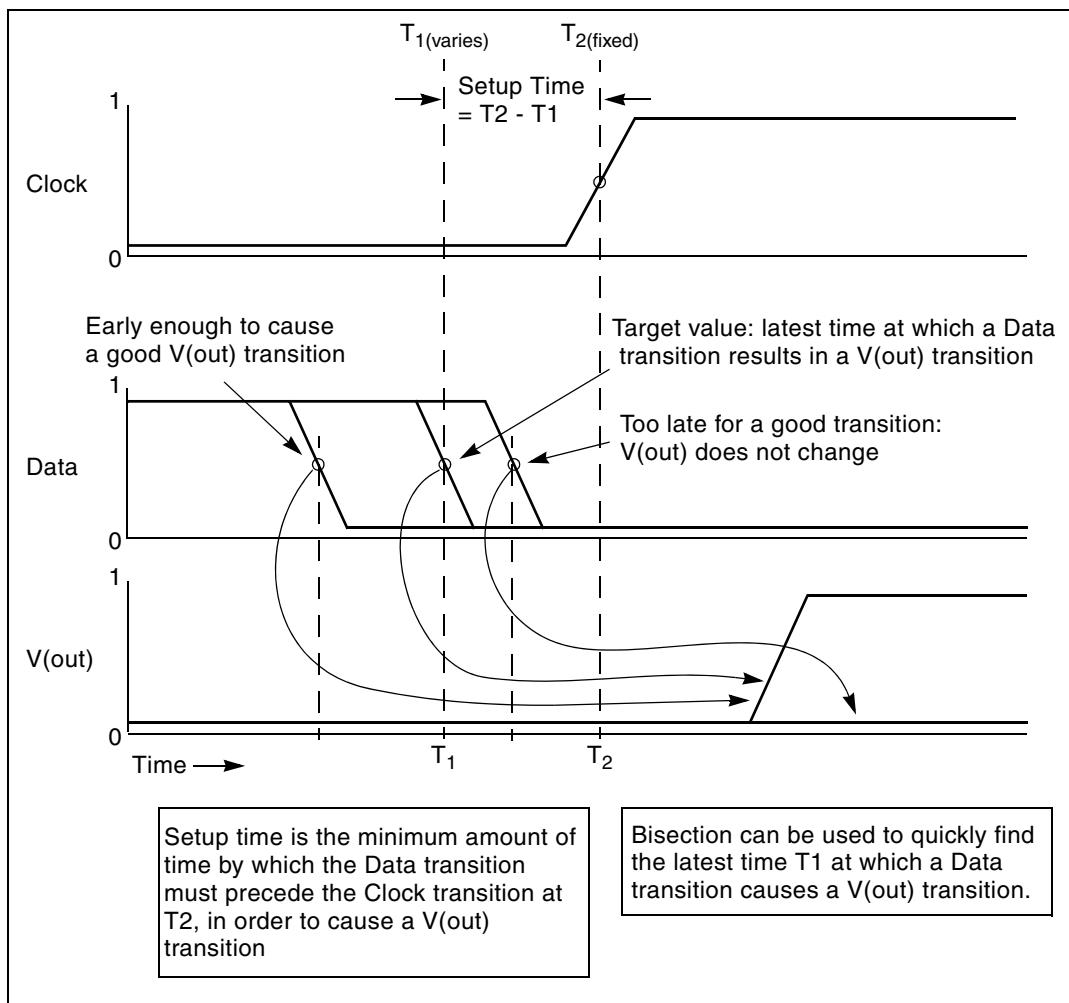
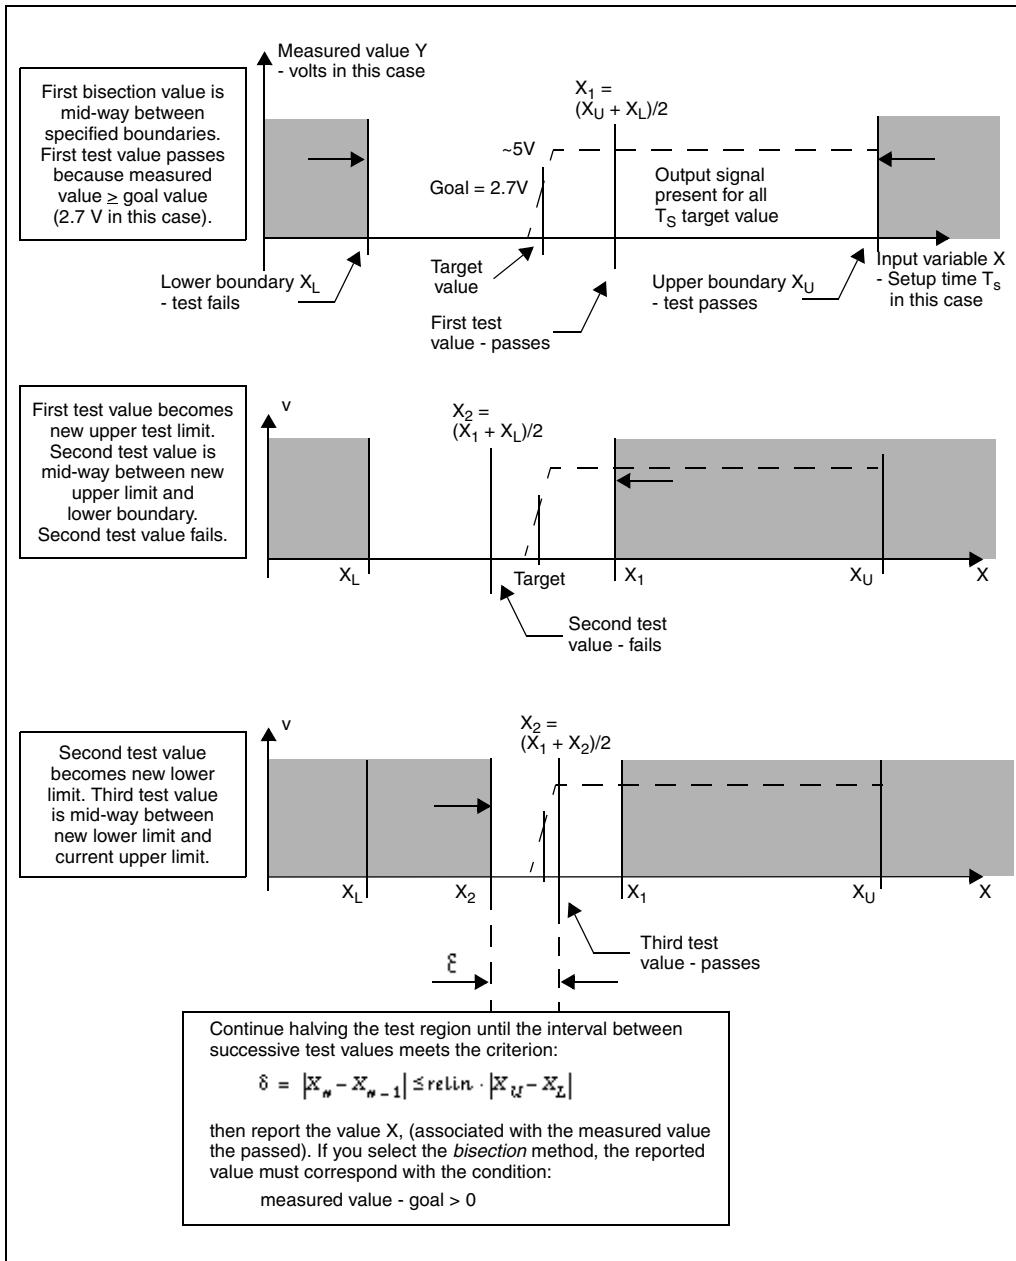
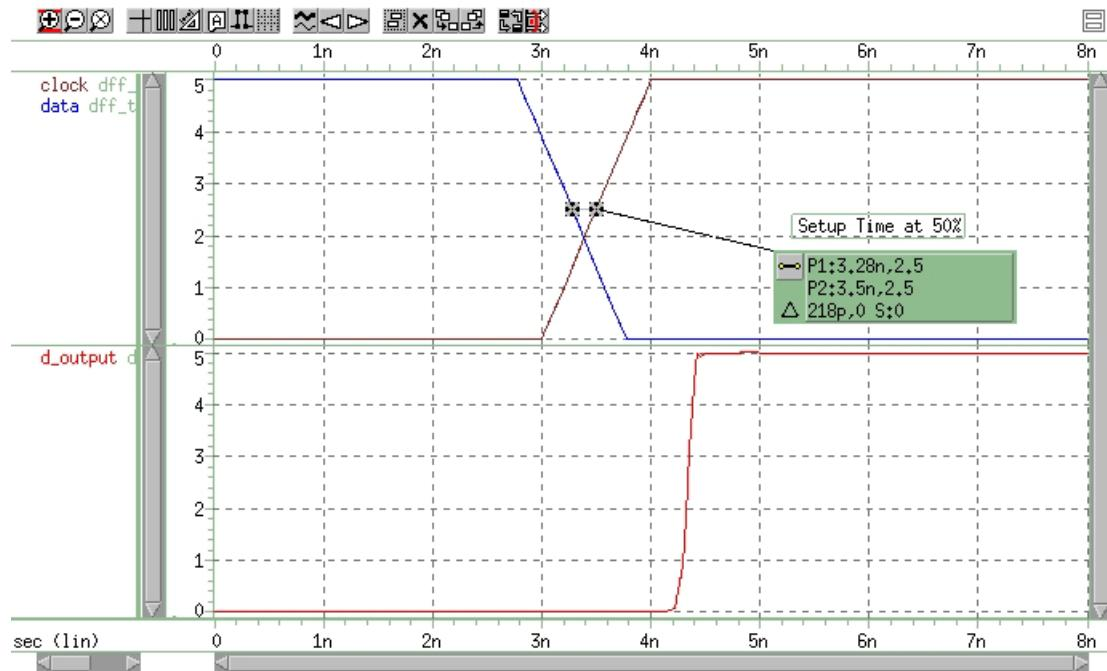

Figure 179 Determining Setup Time with Bisection Violation Analysis
Figure 180 Bisection Example for Three Iterations
Figure 181 Transition at Minimum Setup Time
Figure 179 on page 937 shows a typical analysis of setup-time constraints. Clock and data input waveforms drive a cell. Two input transitions (rise and fall) occur at times T_1 and T_2 . The result is an output transition, when $V(\text{out})$ changes from low to high. The following relationship between the $T_1(\text{data})$ and $T_2(\text{clock})$ times must be true for the $V(\text{out})$ transition to occur: $T_2 > (T_1 + \text{setup time})$.
- Automatically varying the input parameter (T_1 in Figure 179 on page 937) to find the value for which the transition barely occurs.
Figure 180 on page 944 shows an example of the binary search process that the bisection algorithm uses. This example is the pass/fail type, and is appropriate for a setup-time analysis that tests for the presence of an output transition. In the example depicted in Figure 179 on page 937 note that:
4. The bisection algorithm performs tests for each specified boundary value to determine the direction in which to pursue the target value, after the first bisection. In this example shown in Figure 179 on page 937, the upper boundary has a pass value and the lower boundary has a fail value.
5. To start the binary search you specify the lower and upper boundaries. The program tests the point midway between the lower and upper boundaries (see Figure 180 on page 944).
Figure 180 on page 944 and Figure 181 on page 945 show the results of this demo. HSPICE does not directly optimize the setup time, but extracts it from its relationship with the `DelayTime` parameter (the time before the data signal), which is the parameter to optimize.
The upper plot in Figure 181 on page 945 shows the relationship between the clock and the data pulses that determine the setup time. The bottom plot is the output transition.